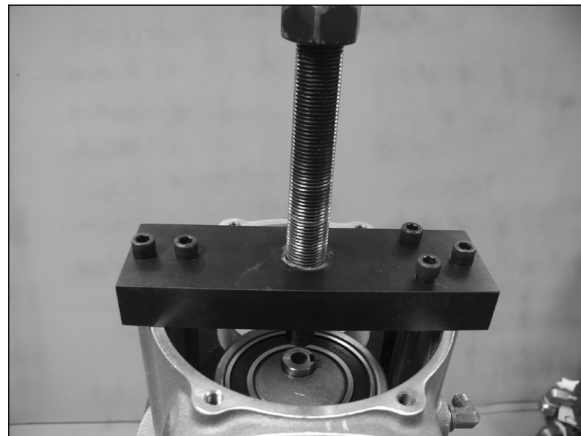

Figure 73 Puller Installation
10. Install the puller on top of the crankcase as shown in Figure 73. Insert three puller bolts into the rod puller and thread into puller plate.